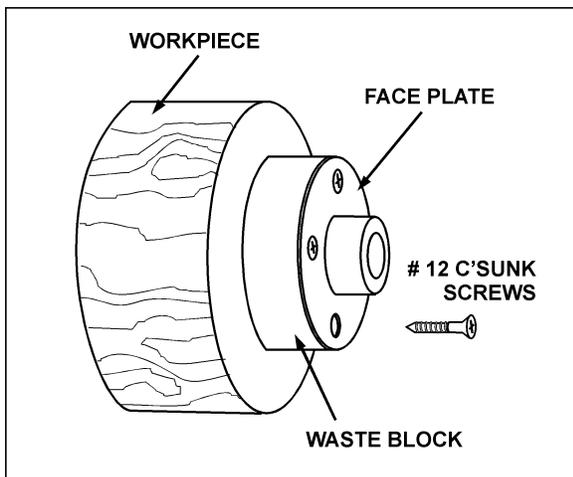

Figure 43
5. Make a block the same diameter as the face plate, Figure 43. Both waste block and workpiece should have flat surfaces for gluing.